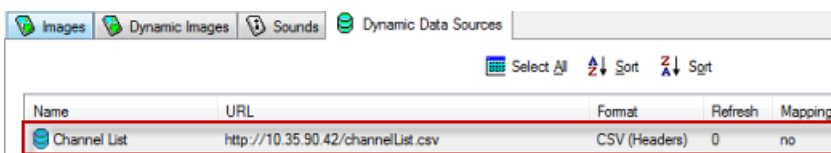

FIG. 141 Resource Manager - Dynamic Data Sources tab indicating "channelList.csv" as the data source
- Click **OK** to save changes and close this dialog. The new data source is indicated in the Resource Manager - Dynamic Data Sources tab (FIG. 141):